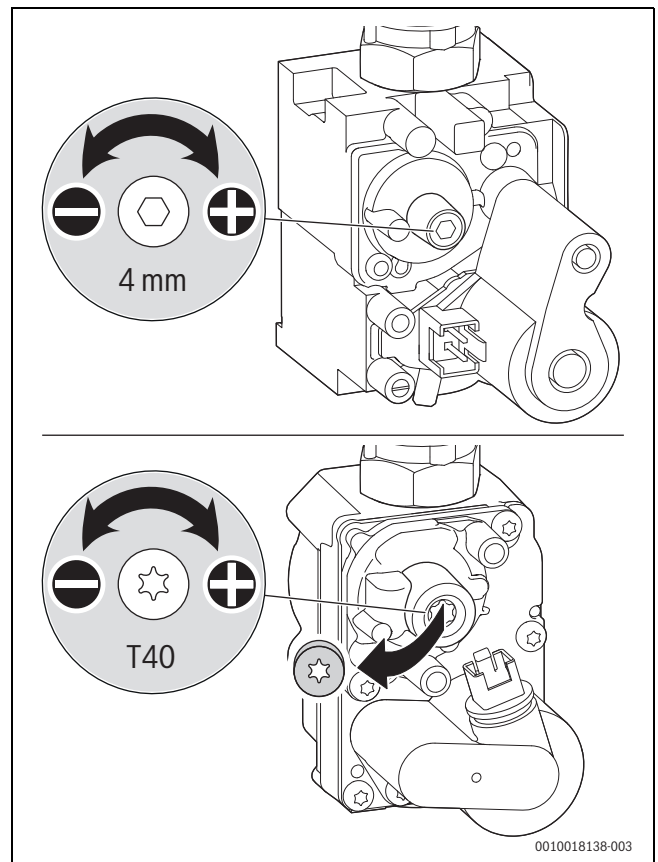

Fig. 107 Setting the CO₂ or O₂ content (above: SIT valve, below: Honeywell valve)
- ▶ Remove the seal from the adjusting screw of the air/gas ratio control valve (only air/gas ratio control valve is shown in the below Fig. 107) and set the CO₂ or O₂ content for minimum rated output.